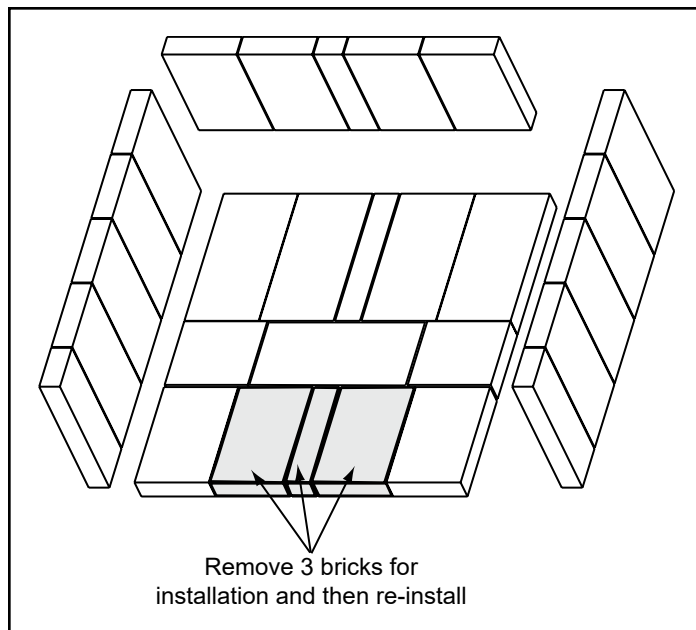

Figure 18.1
2. Remove the 2 bricks in the front most part of the firebox (**Figure 18.1**).
2. Remove the 2 bricks in the front most part of the firebox (Figure 18.1 on page 18).